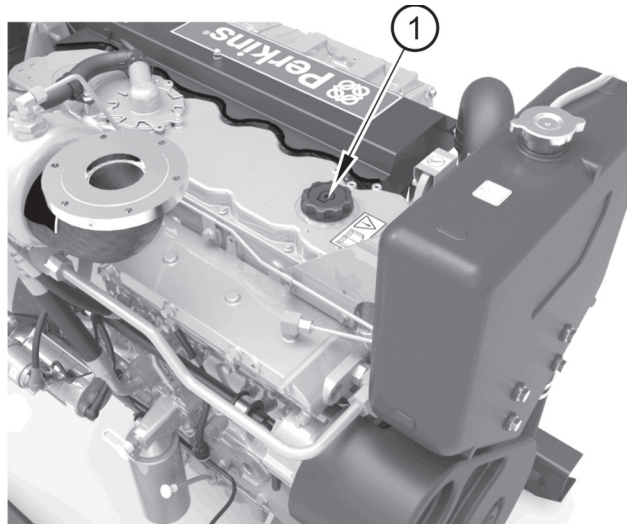

Figure 31
6. Remove the oil filler cap (figure 31 item 1).